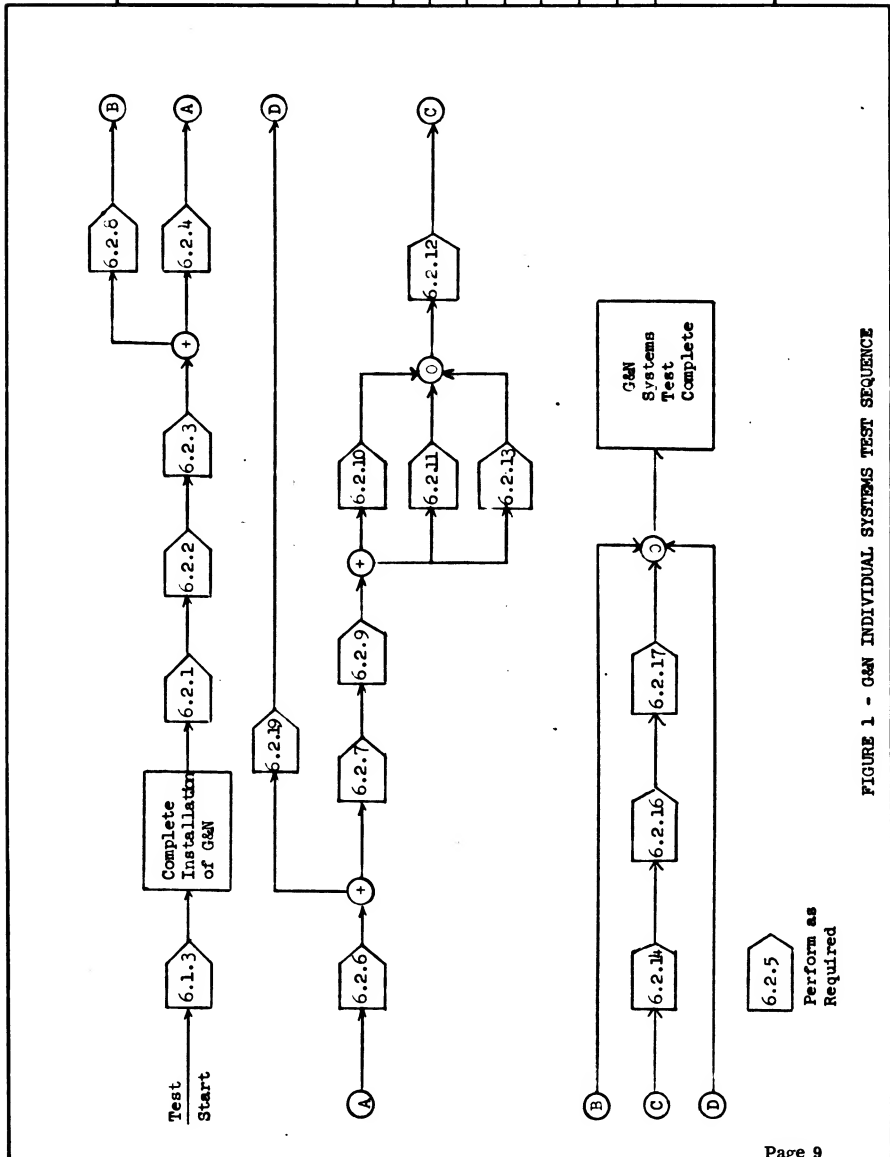

FIGURE 1 - G&N INDIVIDUAL SYSTEMS TEST SEQUENCE
- 5.4.1 The test sequence normally should follow the steps outlined by paragraph numbers in Table I in the order specified, except for 6.2.5, Turn-On and Turn-Off procedure, which may be performed as the requirement arises. This normal order may be deviated from, if necessary, as long as the sequences shown in the flow chart of Figure 1 are followed.